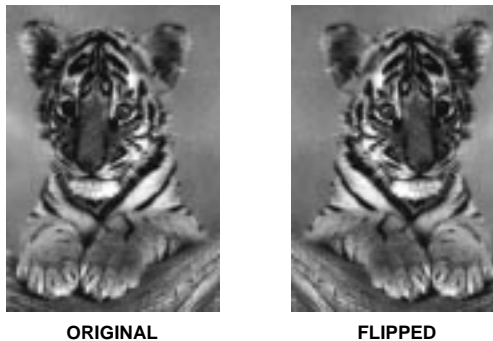

FIGURE 10. DIGITAL IMAGE MANIPULATION
**Address Sequencer** - An address sequencer is a device that is used in conjunction with a video frame buffer to manipulate image information. Such manipulations include image rotation, skewing, and flipping as demonstrated in Figure 10. The address sequencer is also used in a configuration with frame buffers and other image digital processing devices to perform functions such as Fast Fourier Transforms (FFTs), edge detection, and other filtering processes that provide special video effects. An address sequencer is thought of as a data address manipulator more than a processing circuit because the actual video data does not pass through the address sequencer. Rather, the address sequencer controls an image buffer (frame buffer) to determine the order of flow of image-pixel data exiting the buffer. The address sequencer is "setup" or programmed by a controller or microprocessor. Key specifications for the address sequencer include maximum clock rate and number of address bits the IC can handle.